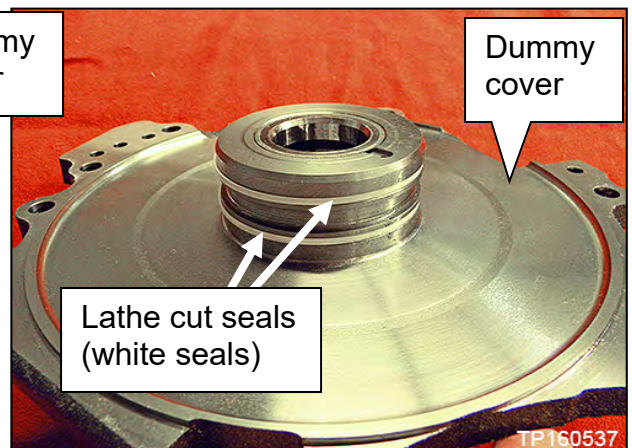

Figure 51
- Do NOT remove the lathe cut seals (white seals, Figure 51) from the dummy cover. These seals will be reused.